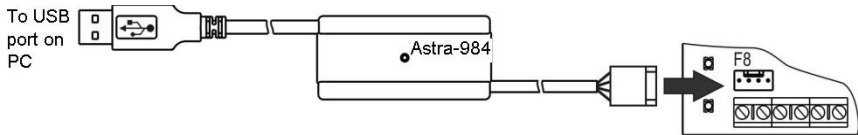

Figure 3
- 5) connect interface adapter Astra-984 to a USB port on the PC (Fig. 3);